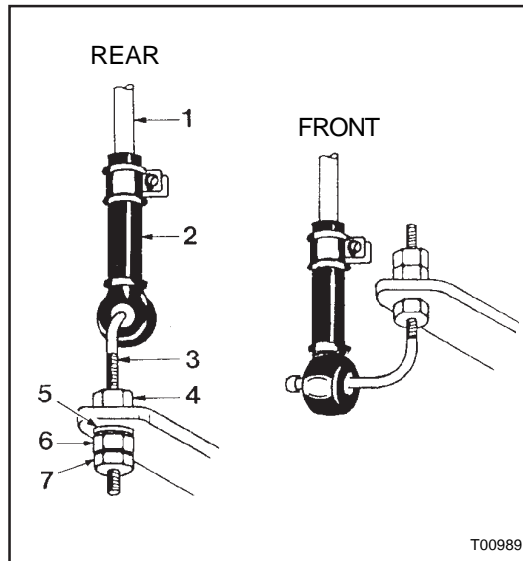

Figure 4: Lower attachment of levelling valve retaining rod
1. With the vehicle at normal operating pressure, disconnect rubber coupling (2, Figure 4) of retaining rod (1, Figure 4)
from anchor bracket (3, Figure 4). Undo and remove retaining nuts (6 and 7, Figure 4) and screw adjusting nut (4, Figure 4) upwards as far as it will go.